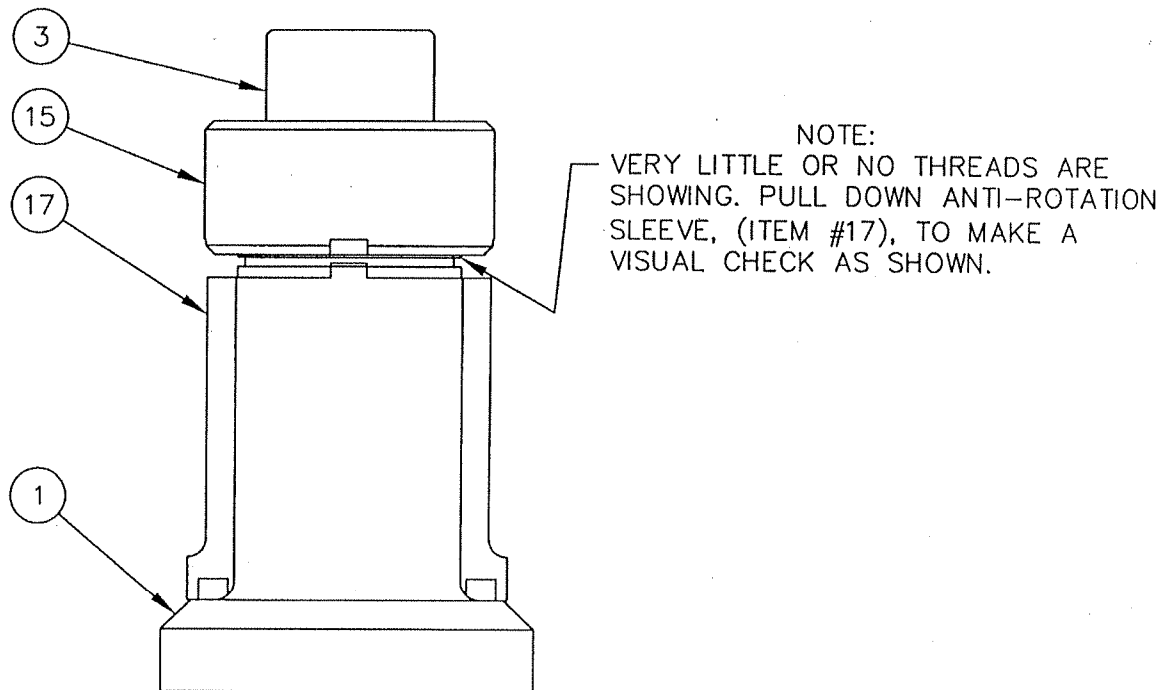

FIGURE 5-12
- J. PULL BACK THE ANTI-ROTATION SLEEVE, (#17) AND TIGHTEN RETAINER NUT, (#15) BY HAND UNTIL THE NUT CANNOT BE TIGHTENED FURTHER. THE RETAINER NUT, (#15) MUST BE FULLY ENGAGED ON THE THREADS OF THE SWIVEL BODY, (#1). RELEASE THE SPRING LOADED ANTI-ROTATION SLEEVE, (#17) SO THAT THE SLOTS ENGAGE WITH THOSE ON THE RETAINER NUT, (#15). IF THE SLOTS DO NOT LINE UP, LOOSEN THE RETAINER NUT, (#15) ONLY ENOUGH TO ENGAGE THE NEXT SLOT. VERIFY THAT THE RETAINER NUT, (#15) IS FULLY THREADED ONTO SWIVEL BODY, (#1) BY CHECKING THAT LITTLE OR NO THREADS ARE VISIBLE, REFER TO FIGURE 5-12.